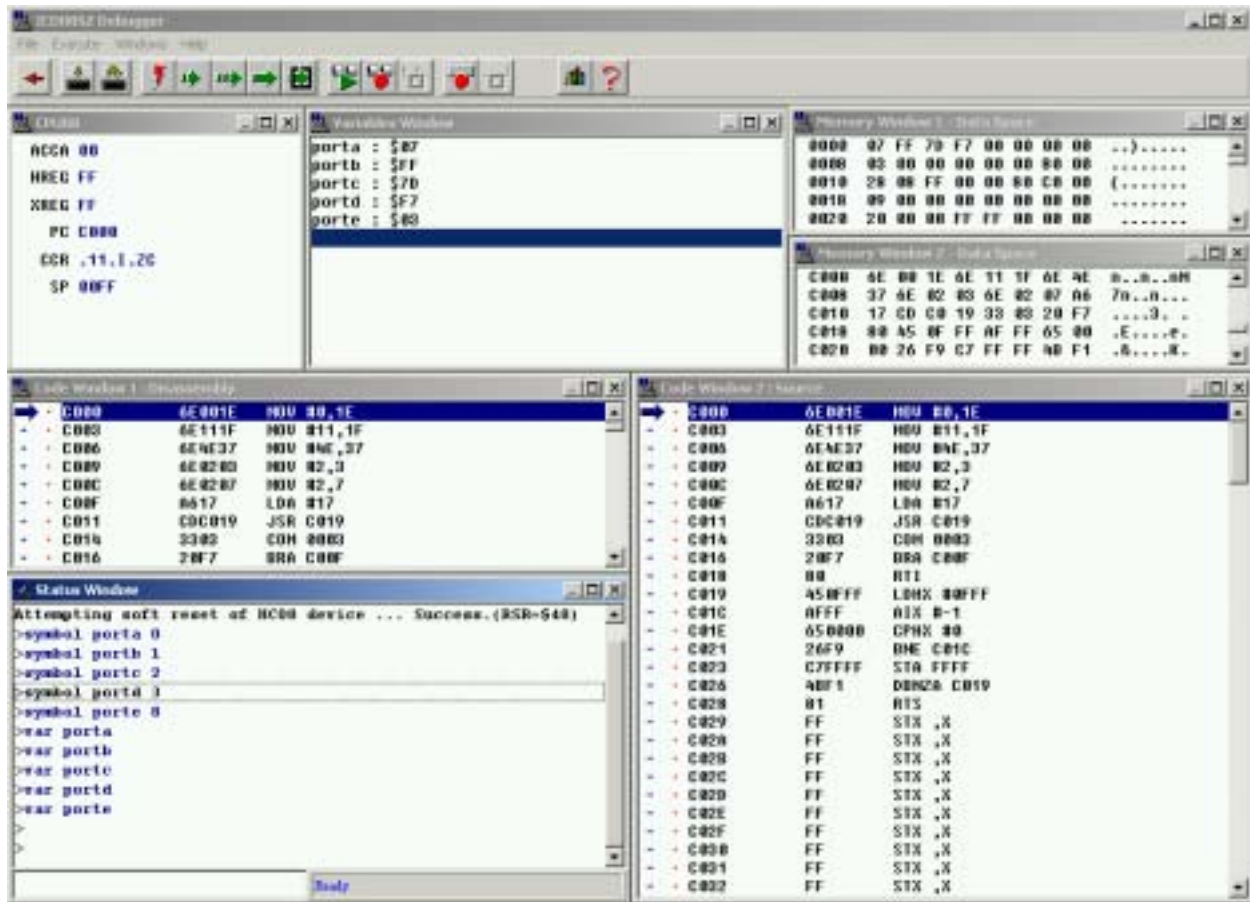
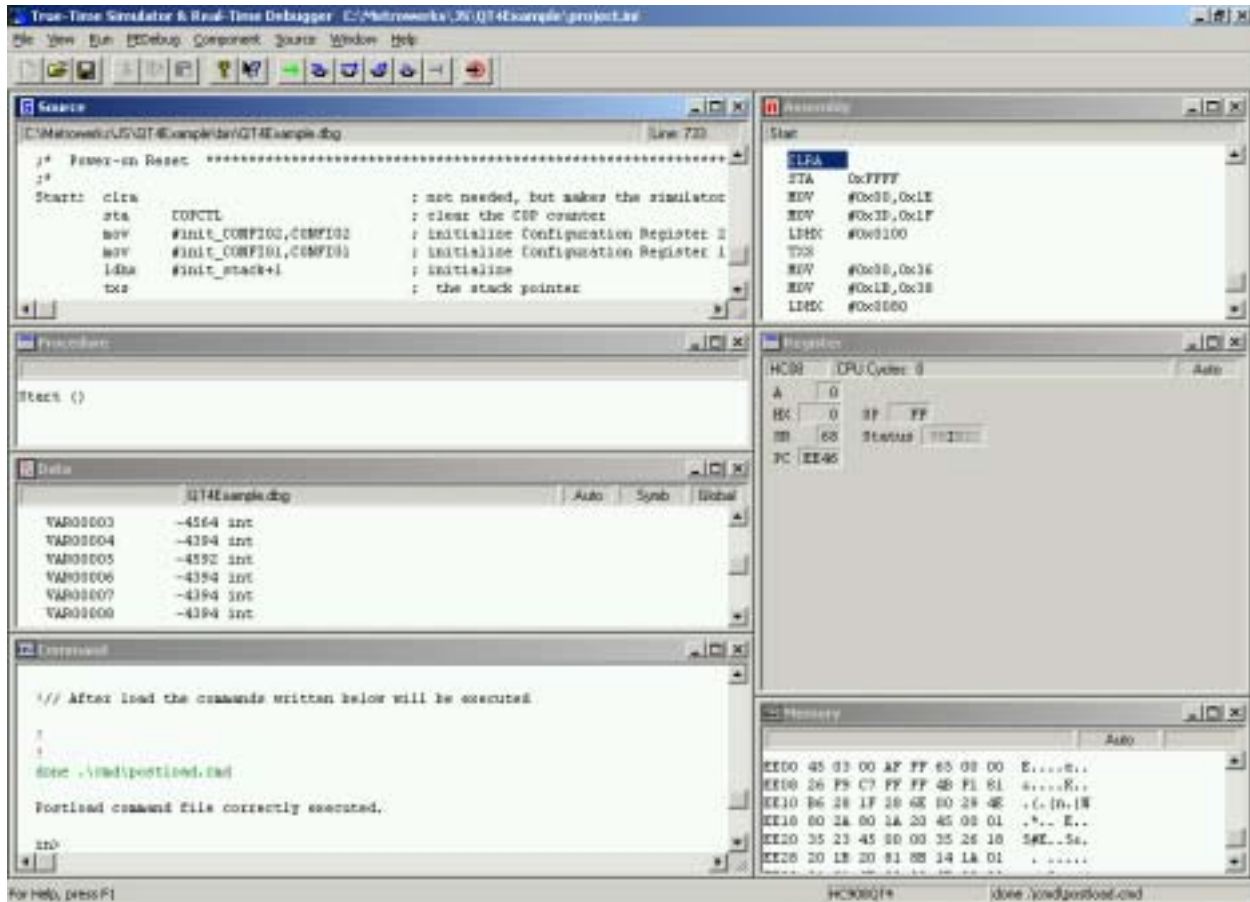

Figure 13. P&E's ICD08SZ Debugger Window
Figure 15. True-Time Simulator & Real-Time Debugger Window
Getting into the ICD08SZ debugger is even simpler. With a MON08 interface between PC and target, select the In-Circuit Debugger icon from the WinIDE menu bar. Follow the instructions in the Power Cycle dialog box if using the Class III hardware type. The debugger establishes communications with the target and interrogates the memory spaces on the MCU. Various windows display register, variables, code, memory, and status information. See Figure 13. Icons in the menu bar offer quick access to debugger functions.
4. Click the Debug icon (green arrow). The True-Time Simulator and Real-Time Debugger launches. **Figure 15.**
At this point, the FLASH memory is programmed and ready for debug. The True-Time Simulator & Real-Time Debugger integrates the debugger tools from P&E Microcomputer Systems in this example. The windows look slightly different between the ICD08SZ and True-Time tools (compare Figure 13 with Figure 15), but the same basic debugger (ICD08SZ) drives both.